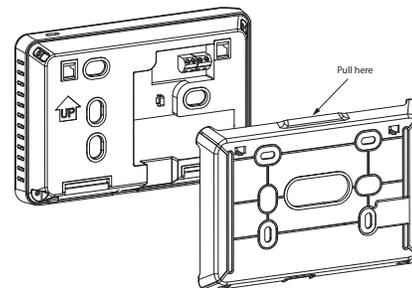

Fig. 5 — Remove back cover from controller
1. Remove back cover from controller as shown in Figure 5.